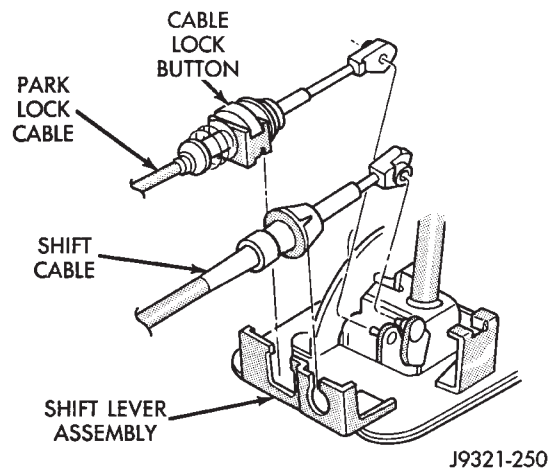

Fig. 176 Park Lock Cable Attachment
(1) Shift transmission into PARK.
(2) Remove shift lever bezel and console screws. Raise bezel and console for access to cable.
(3) Pull cable lock button up to release cable (Fig. 176).
(4) Turn ignition switch to LOCK position.
(5) Use a spacer to create a one millimeter gap between the shifter pawl and top of the shift gate.
(6) Pull cable forward. Then release cable and press cable lock button down until it snaps in place.
(7) Check adjustment as follows: